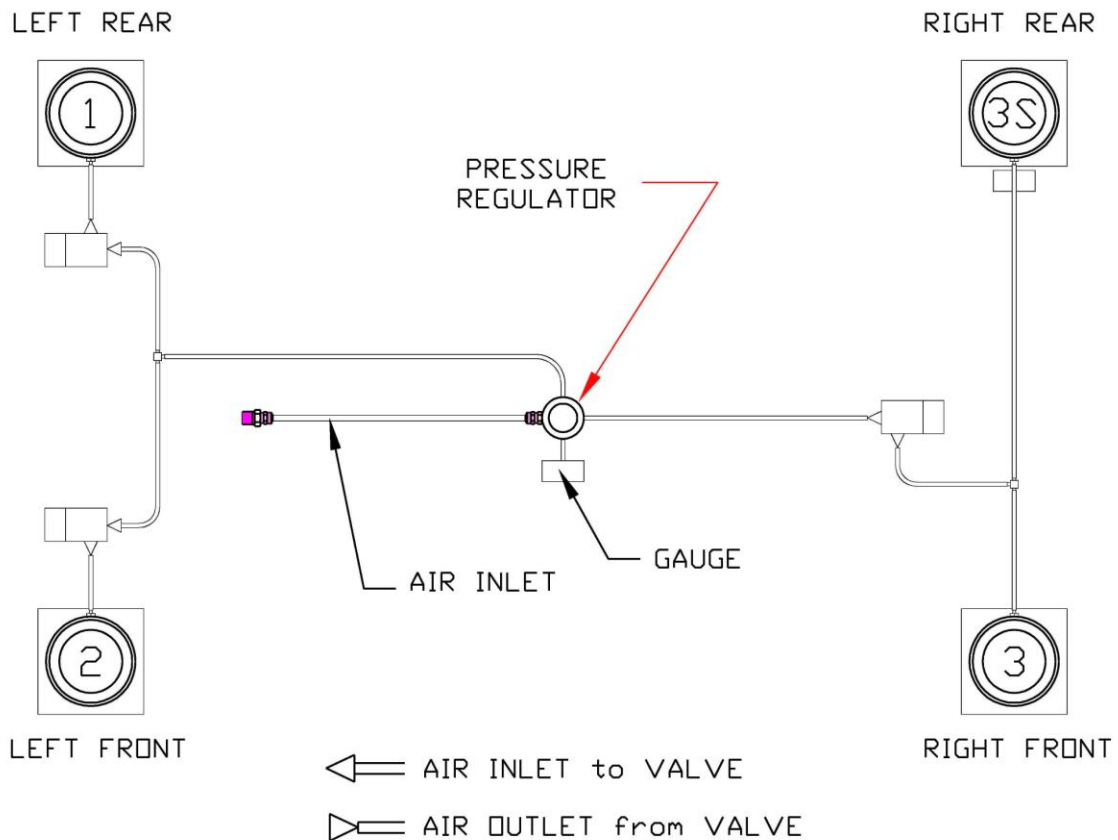

Fig. 10 1201/1202 Airline Schematic.
1. Using the Umbilical Assembly (1/4"ODX15 ft. polyethylene tubing and 1/4" NPT fitting), connect the pressurized air supply to the inlet of the Filter Regulator (as shown in Fig. 10). The Polyethylene tubing may be shortened by cutting with a tubing cutter. If additional pipe fittings are required to complete the connection at the pressurized air supply, they must be supplied by the user.